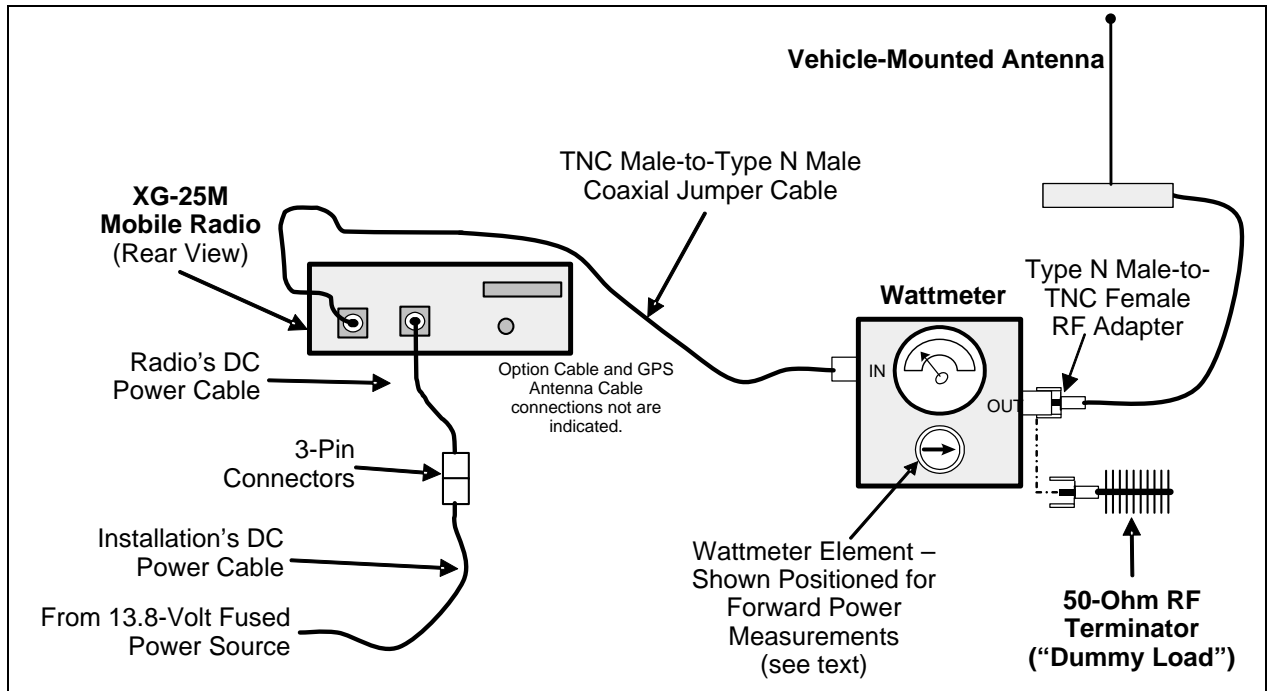

Figure 15-1: Wattmeter Connections for Antenna System Tests
- Using the Type N male to TNC male RF coaxial jumper cable, connect the radio’s antenna connector to the wattmeter’s input connector. Refer to Figure 15-1 as necessary.
1. Connect the antenna cable from the vehicle-mounted antenna to the wattmeter as shown in Figure 15-1.